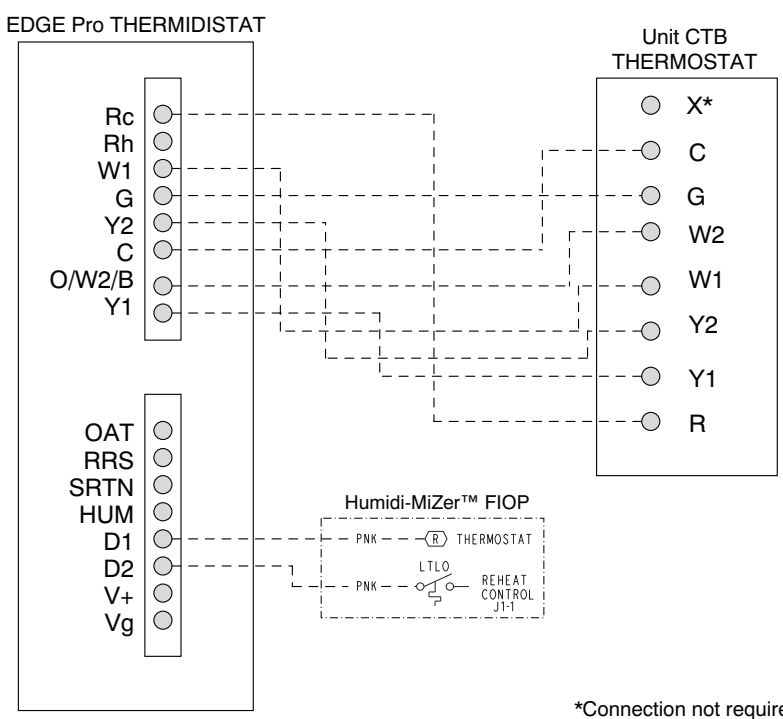

Fig. 37 - Typical Rooftop Unit with Humidi-MiZer Adaptive Dehumidification System with EDGE Pro Thermidistat Device
3. The Thermidistat has dry contacts at terminals D1 and D2 for dehumidification operation (see Fig. 37). The dry contacts must be wired between CTB terminal R and the PINK lead to the LTLO switch with field-supplied wire nuts. Refer to the installation instructions included with the Carrier Edge Thermidistat device (Form 33CS-65SI or latest) for more information.